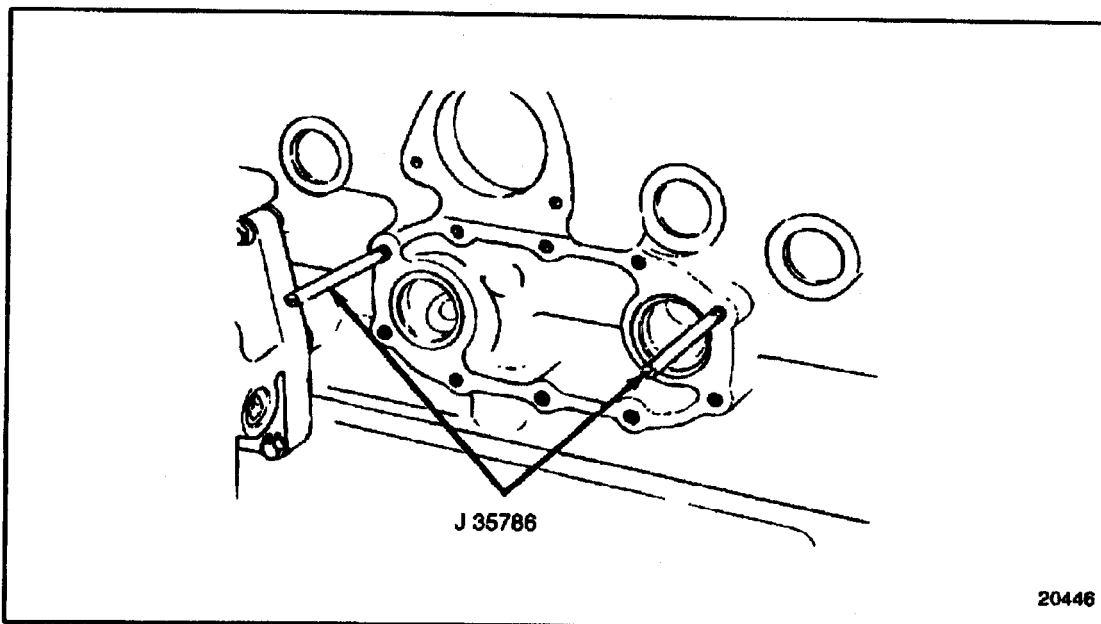

Figure 3-33 Oil Cooler Guide Stud Installation
6. Install the guide studs, J 35786, into two threaded holes in the cylinder block. See Figure 3-33.